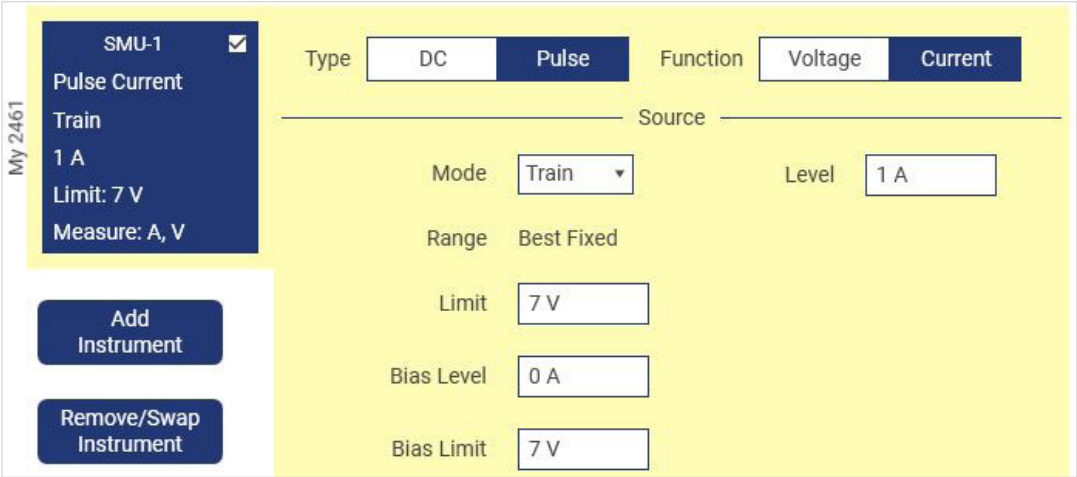

Figure 10: Apply source type and output settings.
3. Navigate to the SMU-1 settings tab and apply the following source changes (illustrated **Figure 10**):